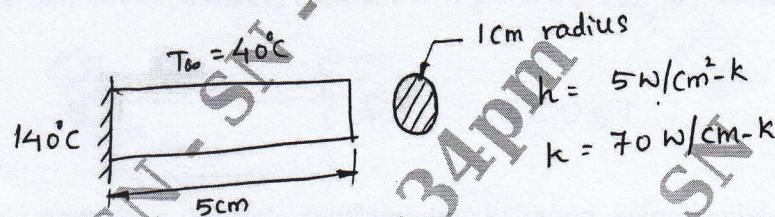

Fig.Q.9(b)
b. Find the distribution in the 1D fin shown in Fig.Q.9(b). Take two element for FE idealization. (10 Marks)